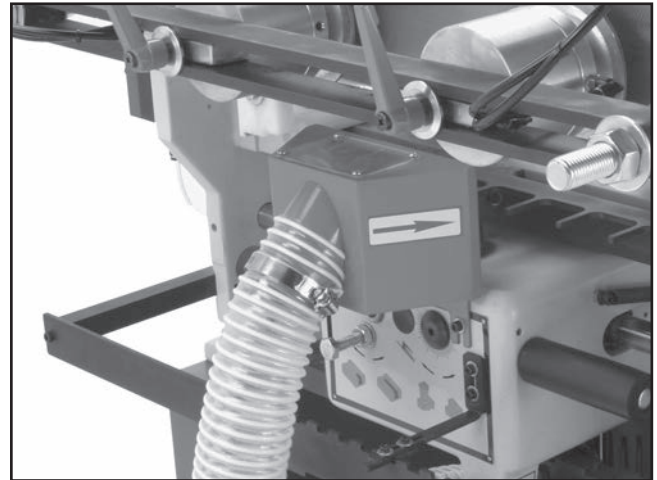

Figure 9. Dust hose attached to guard.
1. Attach the dust hose to the guard as shown in **Figure 9**.